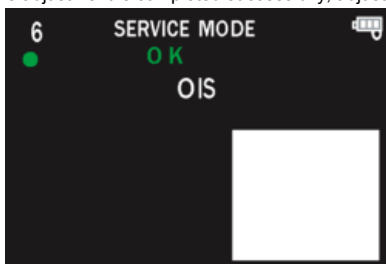

Fig. 3-4
- When the adjustment is completed successfully, adjustment report menu appears with Green OK on the LCD monitor. (Refer to Fig.3-4)